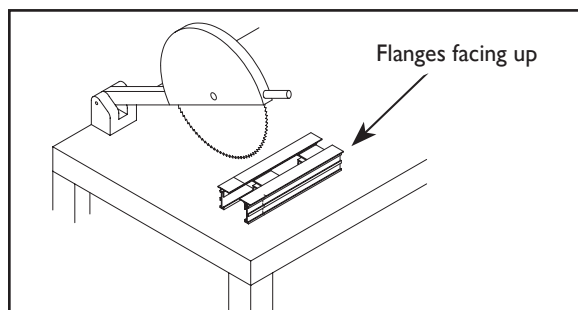

Figure 19. Field Cutting Diffuser
- Secure FlowBar to table. Cut through both FlowBar rails with the finished flanges facing up as shown in Figure 19.